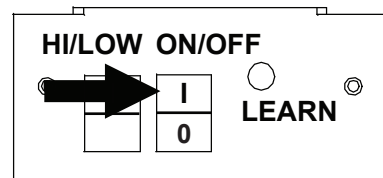

**Figure 9a - Burner System Receiver Switch in OFF Position**
7. Locate Burner System controls on the right front (see **Figure 15**, page 12. Make sure that the ON/OFF switch for the burner is in the OFF position. (see **Figure 9a**)